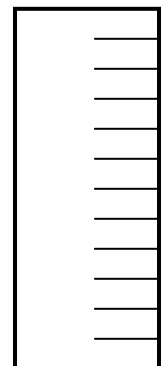

Figure 1
- c. Cut TegraTite strip: 6” wide x pipe circumference plus 2” overlap. Every 1”, cut 3” flanges across the TegraTite strip (Figure 1).